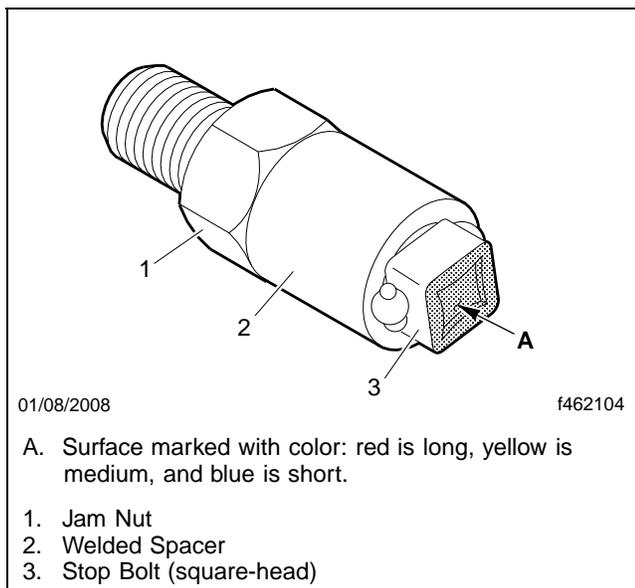

Fig. 6, New Axle Stop Bolt
30. If not already done, hand-tighten the jam nut against the welded spacer before installing each stop bolt. See **Fig. 6**.